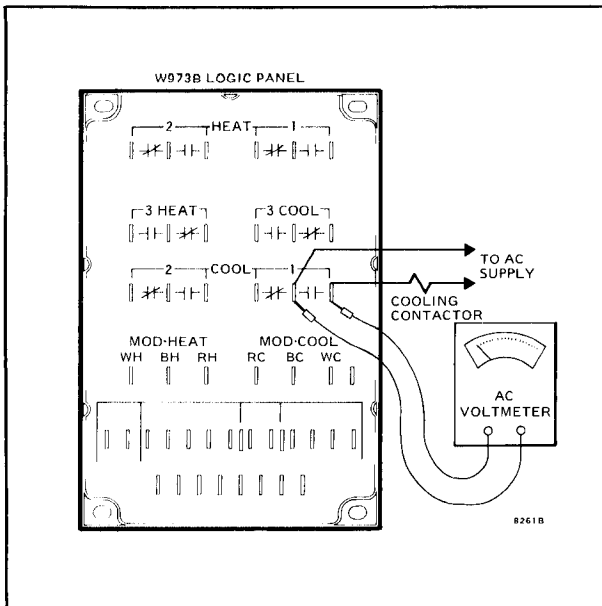

FIG. 16—CONNECT METER LEADS AS SHOWN TO CHECK COOLING RELAY OPERATION.
3. Connect the meter leads to the normally open contacts of each cooling relay. The meter will read zero if the relay is pulled in and the contacts are made (Fig. 16).